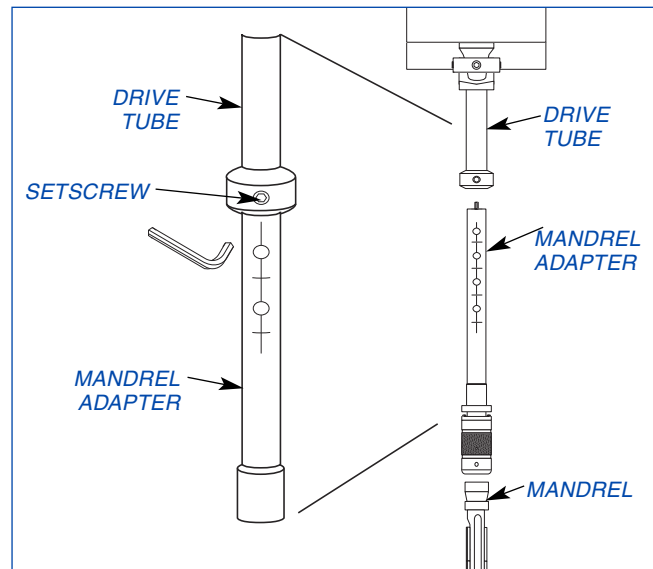

FIGURE 2-3, Install Mandrel Adapter
2. Slide drive tube end of Mandrel Adapter into drive tube of machine, and tighten set screw into one of holes (see Figure 2-3).
Install CV/CK-Series Hone Head by sliding Hone Head Drive Tube into Machine Drive Tube; align Locating Screw in Hone Head Drive Tube with one of holes Machine Drive Tube; then, tighten screw (refer to Figure 2-3).